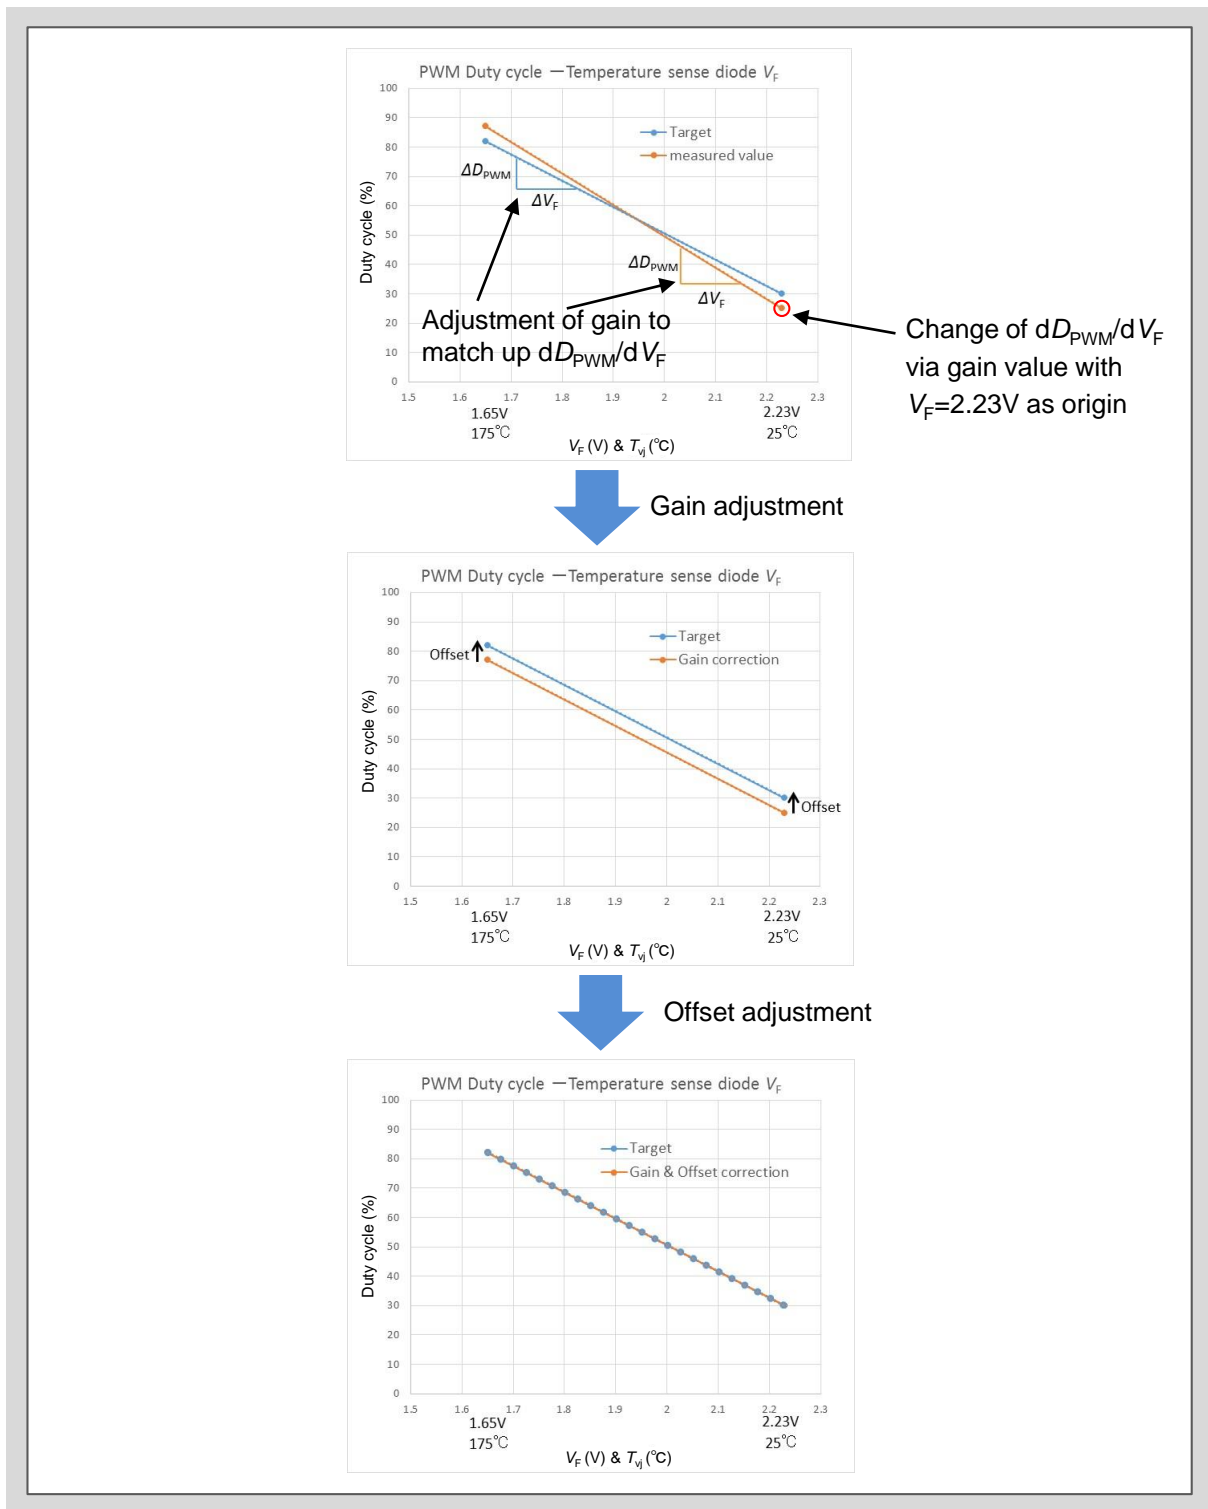

Fig. 9-4 Overview of correction method
- 3) Calculate the gain and offset value of the operational amplifier for temperature sense voltage detection built into the IC so as to correct the difference of the acquired characteristic data against the specification value. Fig. 9-4 shows the outline of the correction method.